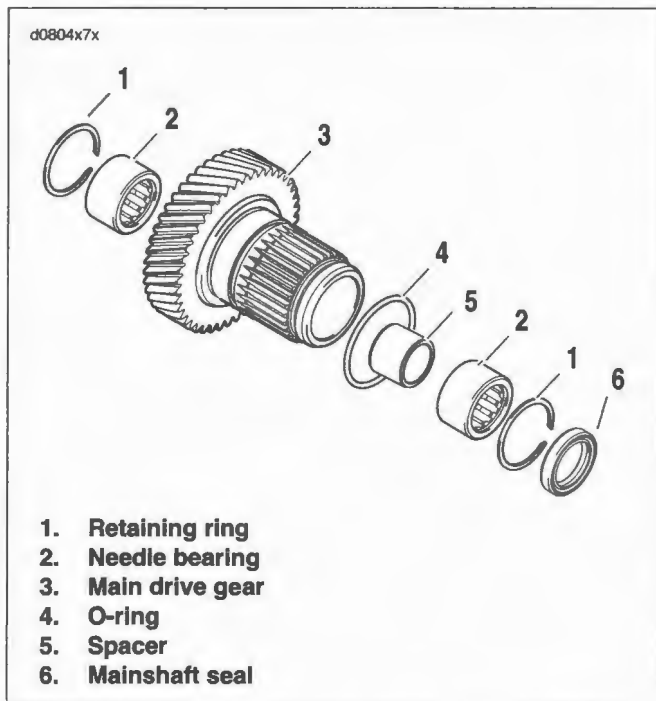

Figure 7-38. Main Drive Gear Assembly
- See Figure 7-38. Remove mainshaft seal (6). Remove retaining rings (1), needle bearings (2) and spacer (5) from main drive gear (3). Discard retaining rings (1).